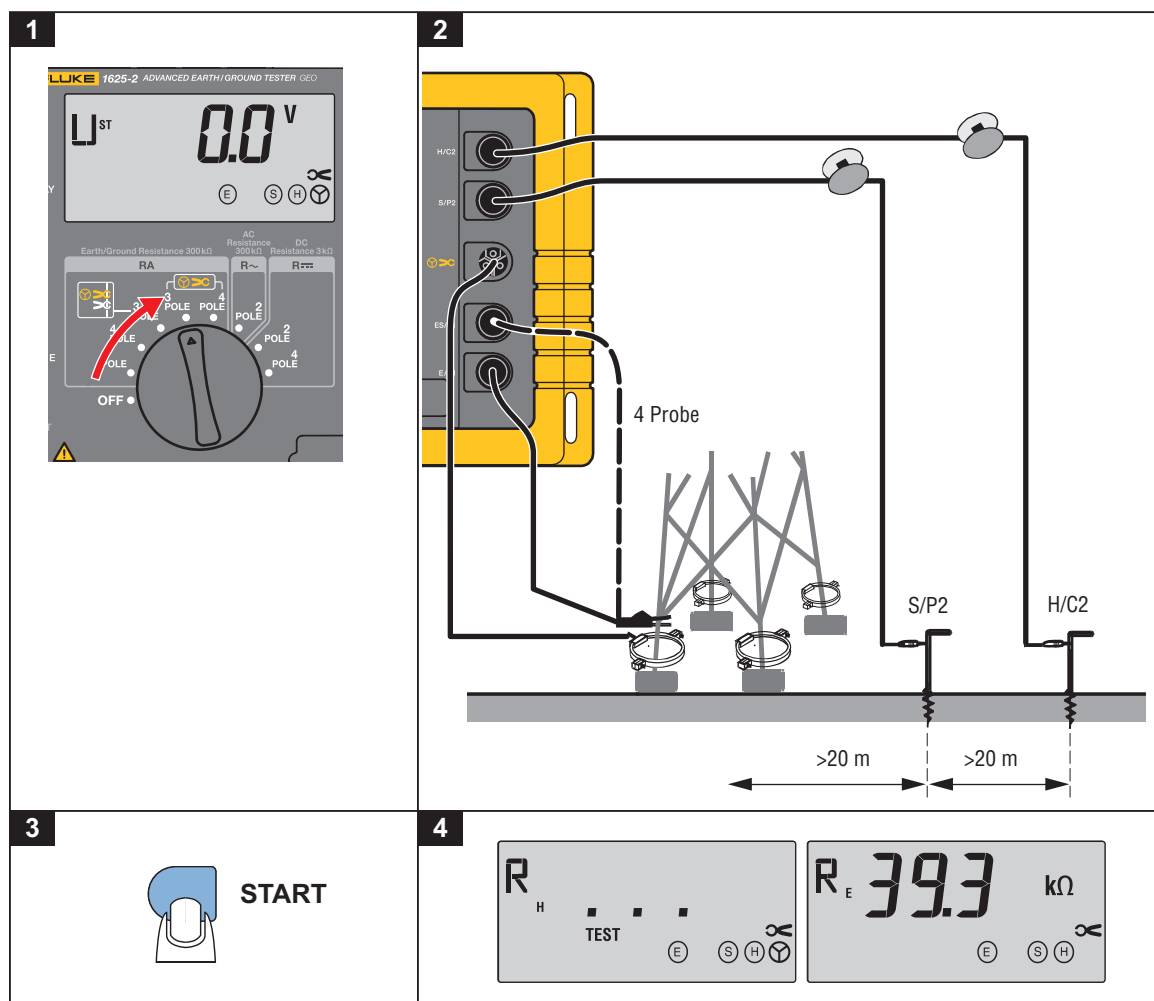

Figure 7. Earthing Resistance without Disengaging the Overhead Earth Wire
The new measuring method employed in this instrument - with its external current transformer to measure the true current flowing through the earth electrode - allows measurements of earth electrode resistances without disconnection of the earthing system or disengaging the overhead earth wire. See Figure 7.
1. Turn central rotary switch to position "➤CR_E 3pole" or ➤CR_E 4pole". The instrument is wired according Figure 7 and messages on the display.